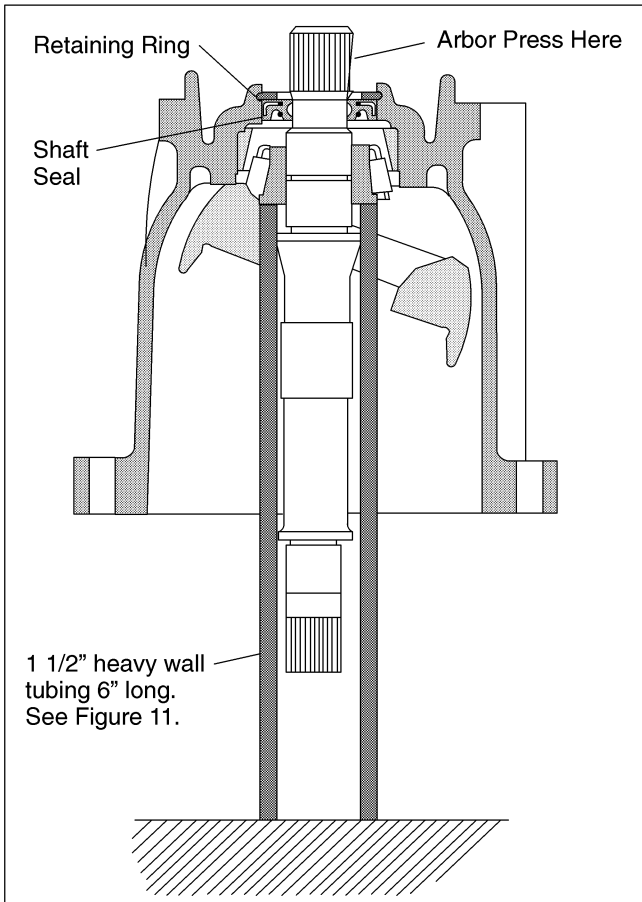
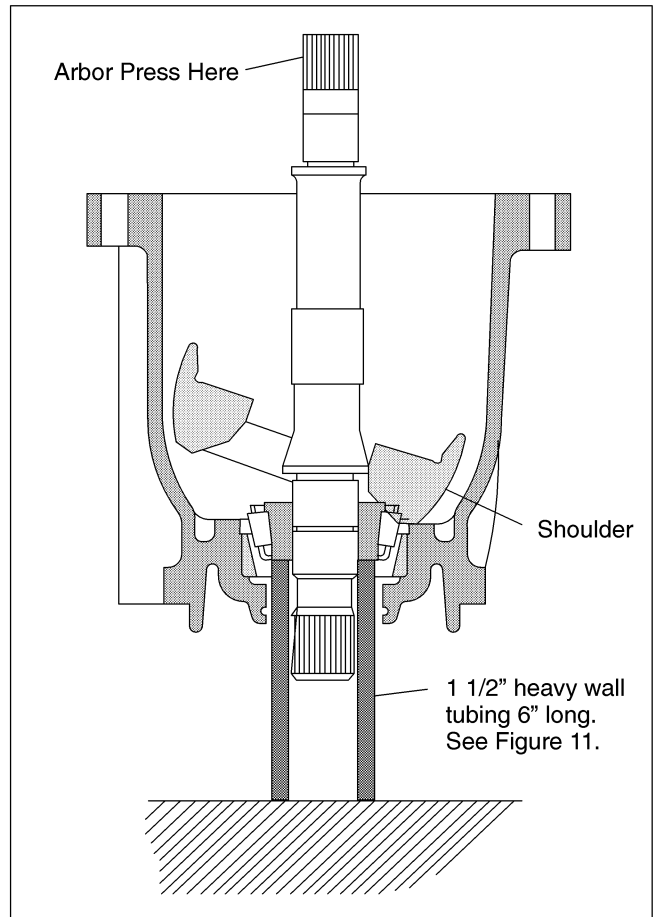

Figure 17. Front Bearing Removal.
Figure 18. Front Bearing Installation.
20. Remove and replace shaft seal (52) located within housing (33) as follows: (Refer to figure 17.)
a. Install a nine inch piece of 1 1/2" heavy wall tubing over drive shaft (55) within the housing. The end of the tubing will rest against the inner race of tapered roller bearing (69) and extend out beyond the end of the pump housing. Place the complete unit with tubing into an arbor press with drive spline up. Press the drive shaft through the bearing and out of the unit. A 0.001 press exists between the shaft and bearing so considerable force is required to remove the bearing. See Figure 17.
b. Remove retaining ring (51) and pull shaft seal (52) from housing (33). Be careful not to damage the aluminum die cast housing in the seal area.
c. Press drive shaft (55) into shaft bearing (69) as follows: Use a short piece of 1 1/2" inch heavy wall tubing (approximately 6" long) over the drive spline of the shaft. The tubing must be long enough to go through the shaft seal end of the pump and make contact with the inner race of the front bearing. Press the shaft through the bearing with an arbor press until the bearing bottoms against the shoulder of the shaft. See Figure 18.
d. Remove the short piece of tubing and turn shaft bearing (69) in its race with the end of the shaft. The bearing rollers must turn free and smooth.